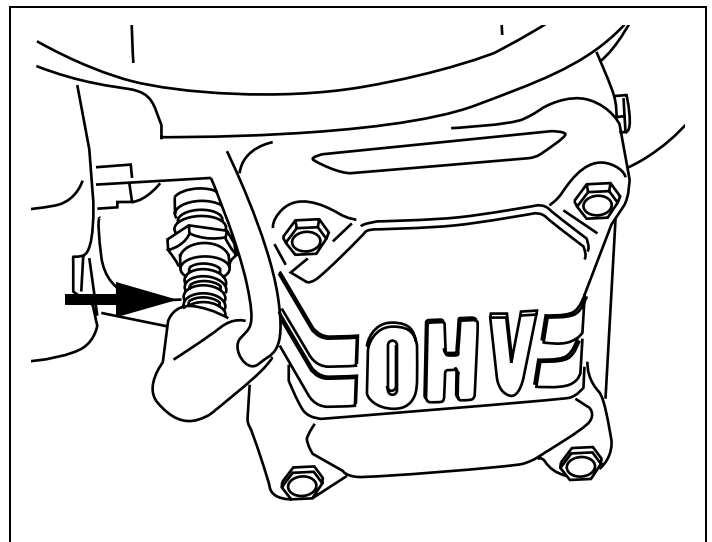

Figure 44. Typical Spark Plug Connection
14. Carefully re-connect spark plug wire to spark plug. See Figure 44.